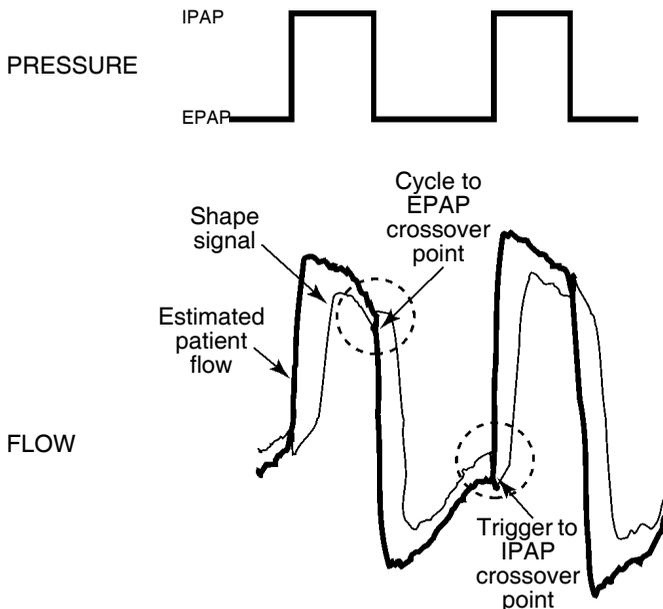

Figure 17: Shape Signal
- The Shape Signal algorithm (Figure 17) continuously tracks patient inspiratory and expiratory flow and adjusts the spontaneous trigger and cycle thresholds for optimum sensitivity. The shape signal is a shadow image of the patient's actual flow and functions as a sensitivity threshold at either inspiration or exhalation. When the patient's flow rate crosses the shape signal, the system changes pressure levels. The shape signal is created by offsetting the signal from the actual patient flow by 15 L/min and delaying it for 300 milliseconds. This causes the shape signal to be slightly behind the patient's flow rate. A sudden change in patient flow causes the shape signal to be crossed, causing the pressure level to change.